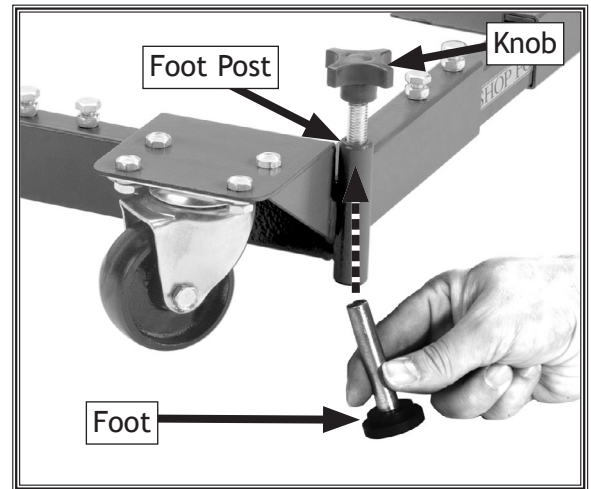

Figure 17. Installing foot and knob into a foot post.
1. Thread a knob several turns into each foot post, as shown in Figure 17.
2. Insert a foot into the bottom of each foot post (see Figure 17). The magnetized knob shaft should pick up the foot when it comes in close proximity.